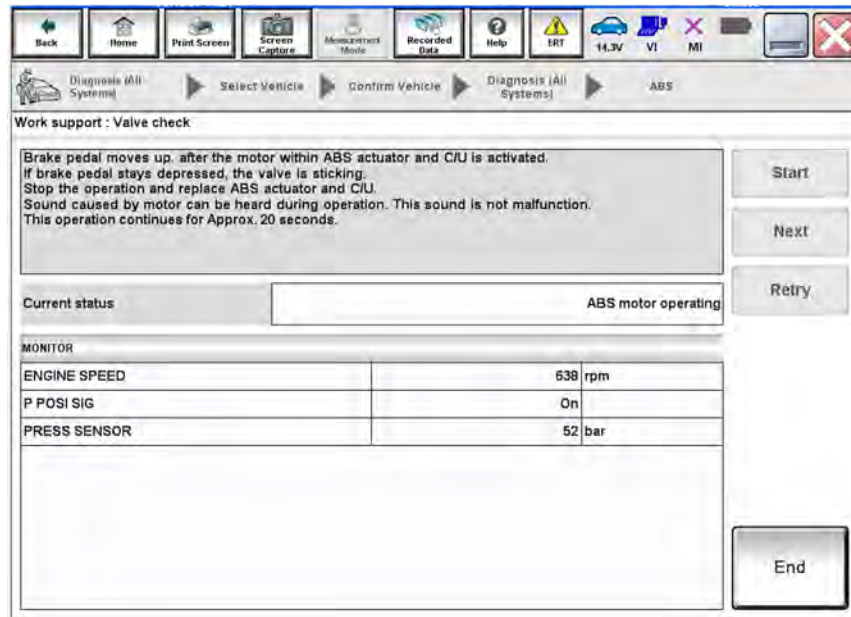

Figure 21
- After **Next** is selected, Figure 21 will be displayed with Current status of “ABS motor operating”.